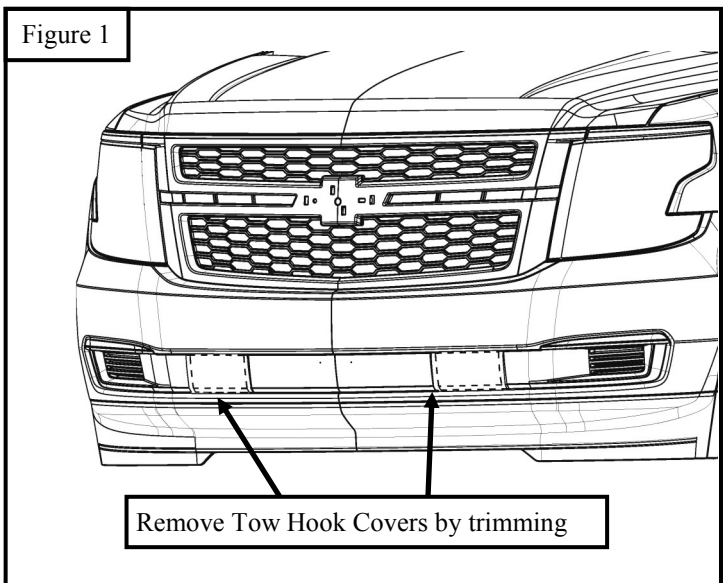

Figure 1
- Locate the two rectangular covers on the bumper insert. These rectangular covers will need to be removed. Trimming may be required (Figure 1). Note: Some models may have factory tow hooks installed, if so, the tow hooks will have to be removed and trimming is required.